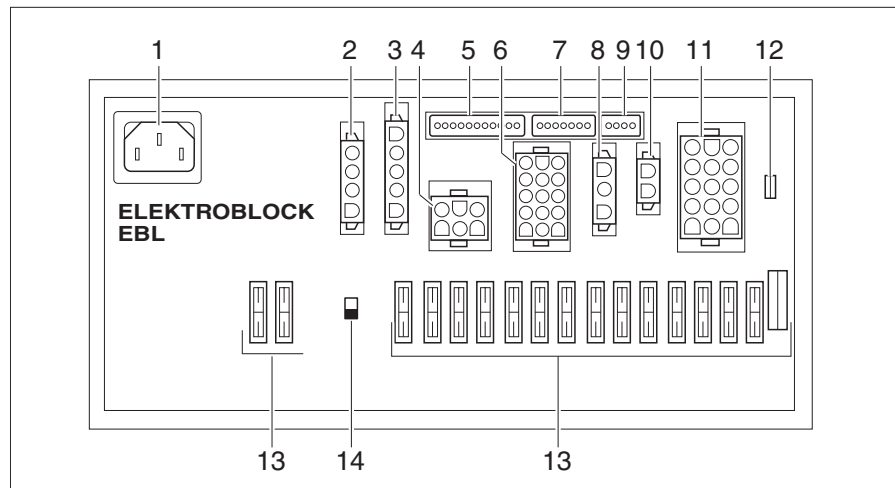

Fig. 222 Transformer/rectifier (EBL 102)
Location Depending on the model, the transformer/rectifier (Fig. 222) is installed in the seat console under the driver's seat or in the garage or bar seating group (Globeline).
- ▷ The battery cut-off switch (Fig. 222,14) disconnects all the appliances that are connected to the transformer/rectifier from the 12 V network.